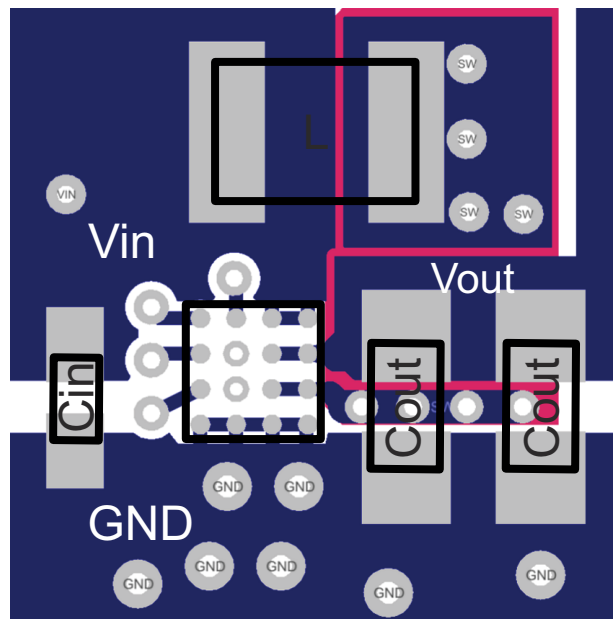

Figure 12-1. Suggested Layout (Top)
- Place the output capacitor(s) as close as possible to GND and V_{OUT} , as shown in Figure 12-1.